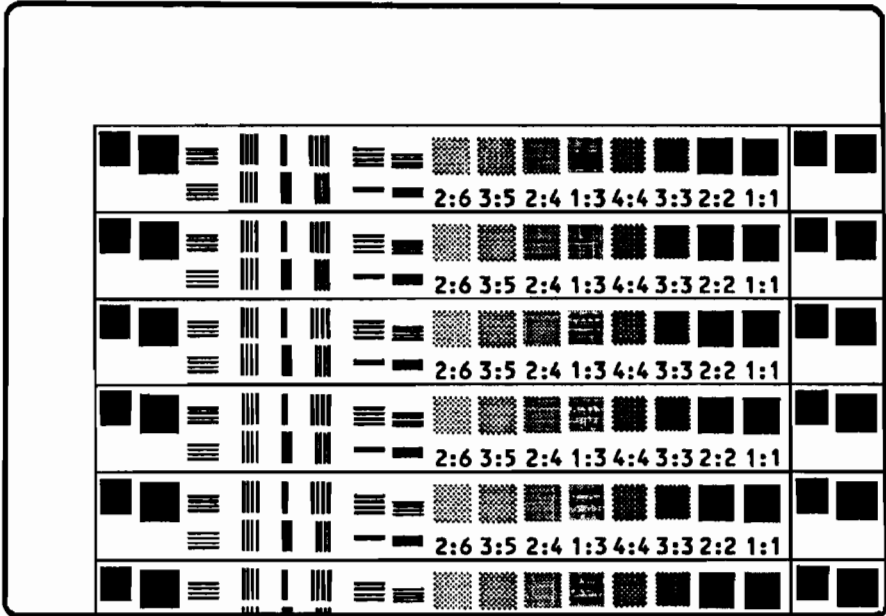

Figure 3-10. Portion of Service Mode Self Test
2. For both printers, holding down the **PRINT FONTS/TEST** key until 05 SELF TEST is displayed (about two seconds) causes the formatter to first perform a self test. During the printing portion, 06 PRINTING TEST (localized for HP 33459) is displayed and a Service Mode self-test printout is produced. The printer will then again display SERVICE MODE. Figure 3-10 shows a sample of the Service Mode self-test print.